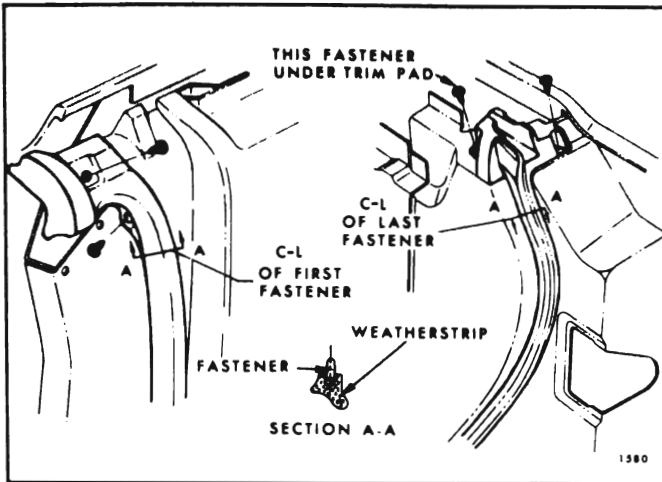

Fig. 6-3 - Door Weatherstrip - Attachment Under Trim Assemblies
1. On all hardtop and convertible styles, remove exposed plastic fasteners at belt line. On all "E" body styles, all "B" body hardtop and convertible styles and "C-39 and 69" styles (front and/or rear doors), remove door trim assembly to gain access to weatherstrip fastener (See Fig. 6-3).